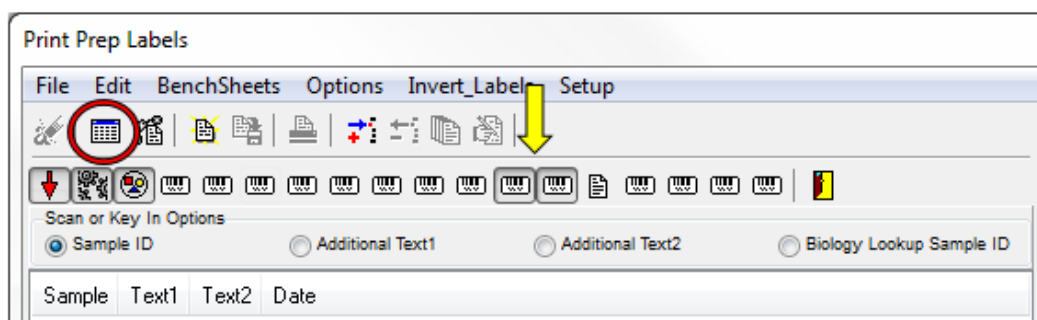

Figure 1
- 4.4.2. Deselect the two tabs that are already highlighted, as shown in Figure 1 (yellow arrow), by double-clicking the shortcut label buttons marked Micro Petri Dish and Chlorophylls (text appears when mouse hovers over selection).
- 4.4.4. Click on the second shortcut icon (circled in Figure 1) to Load Sample IDs from prep worksheet. Select the appropriate worksheet (that was just created or added to) and click **OK**.